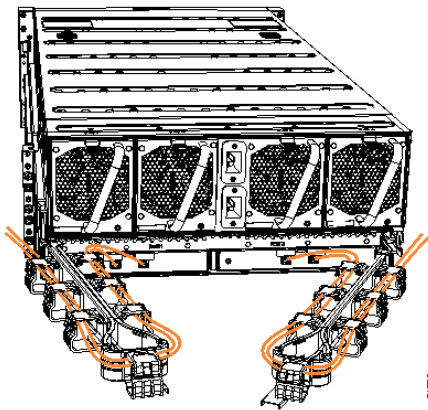

Figure 143. Example of SAS cables routed through the cable management arms
8. Route the SAS cables through the cable management arms, as shown in Figure 143 on page 195.